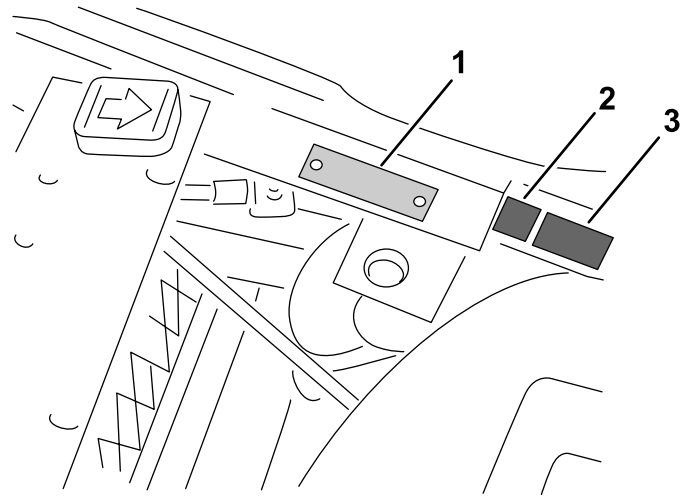

Figure 13
- Apply the CE mark decal and the production year decal near the serial plate on the footrest support (Figure 13).